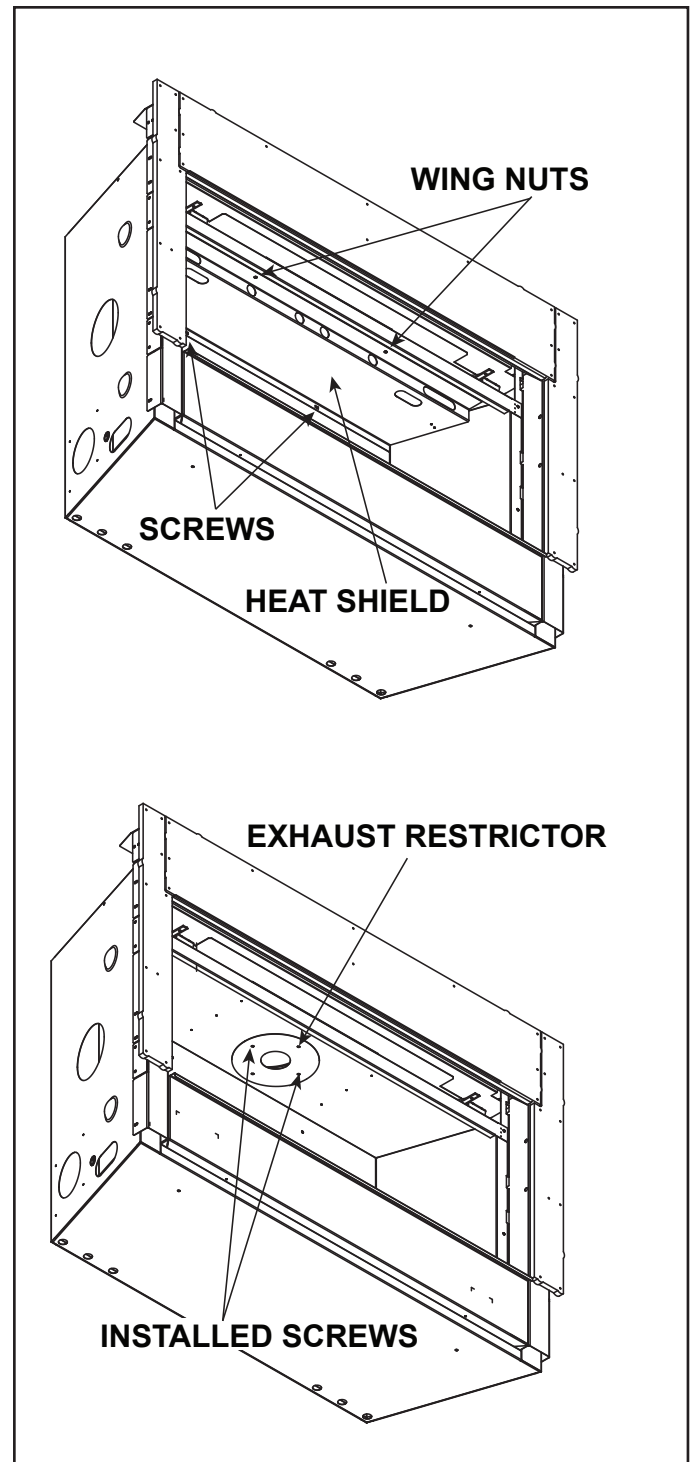

Figure 4.14
2. Center the exhaust restrictor in the open end of the exhaust outlet and secure through the slots on the exhaust restrictor with the two 1/4 in (6 mm) self-tapping screws provided in the appliance manual bag. See Figure 4.14.